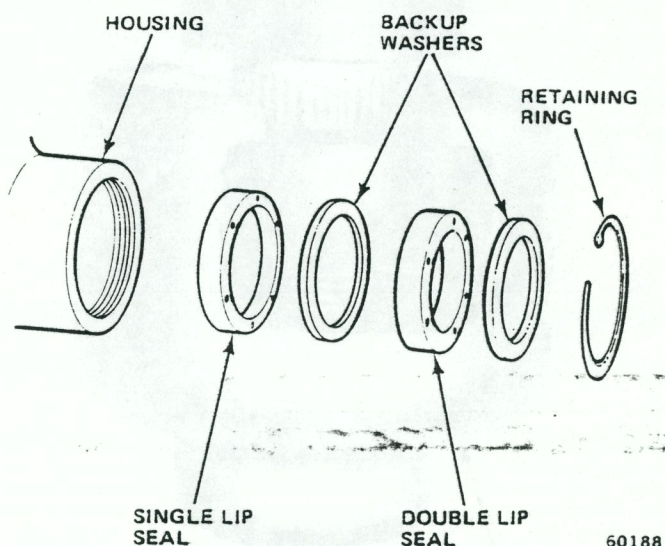

Fig. 2L-10 Pitman Shaft Seals and Backup Washers
(6) Stop engine and remove seals and backup washers from pitman shaft.
(7) Inspect outer diameter of seals for damage. If scored or cut, inspect housing bore for burrs and nicks. Remove any burrs or nicks, before installing replacement seals, using crocus cloth.
(8) Inspect pitman shaft surface for roughness, pitting, scoring, rust, or nicks. Clean dirt, rust or corrosion from shaft seal surfaces using crocus cloth. Replace shaft if pitted or severely corroded.
(9) Lubricate replacement seals and shaft surfaces with power steering fluid.
(10) Apply single layer of thin tape to pitman shaft splines to avoid cutting seals.
(11) Insert single lip seal in bore first; then insert backup washer (fig. 2L-10).